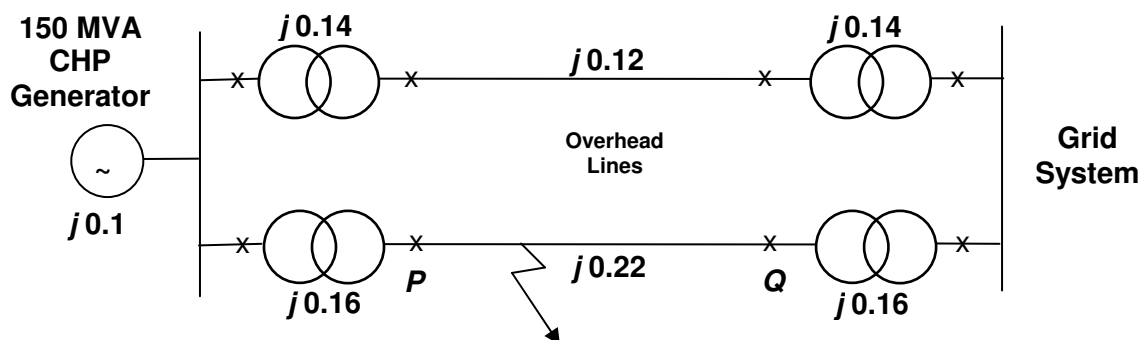

Figure 3.1 CHP Generator System
- (iii) If the line has a phase resistance of $0.1 \Omega/\text{km}$ and the wind turbine is supplying 4MW at 0.8 power-factor lagging, determine the voltage at which the wind turbine must operate if the voltage at the sub-station is 11kV. (3)
- (iv) If the real power supplied remains constant at 4MW, but the power-factor increases to 0.9, explain briefly whether the voltage of the wind turbine would need to be increased or decreased to maintain the 11kV at the sub-station. (1)
- a. A synchronous motor is connected to an infinite busbar system by a short transmission line. Initially the system is stable and the motor is providing constant power to a mechanical load. With the aid of a suitable diagram explain what would happen to the rotor load angle when there is a sudden increase in the mechanical load, and the conditions required to ensure the motor would not lose synchronism. (4)
- b. A synchronous motor connected to an infinite grid system is operating at 25% of its maximum rated power. If the load on the motor is doubled calculate the maximum load angle during swinging around the new equilibrium condition. (4)
- c. Figure 3.1 shows a 150MVA Combined Heat and Power (CHP) generator connected to a grid system by a pair of overhead lines. The per-unit reactances of the various components are given for a common base of 150MVA.